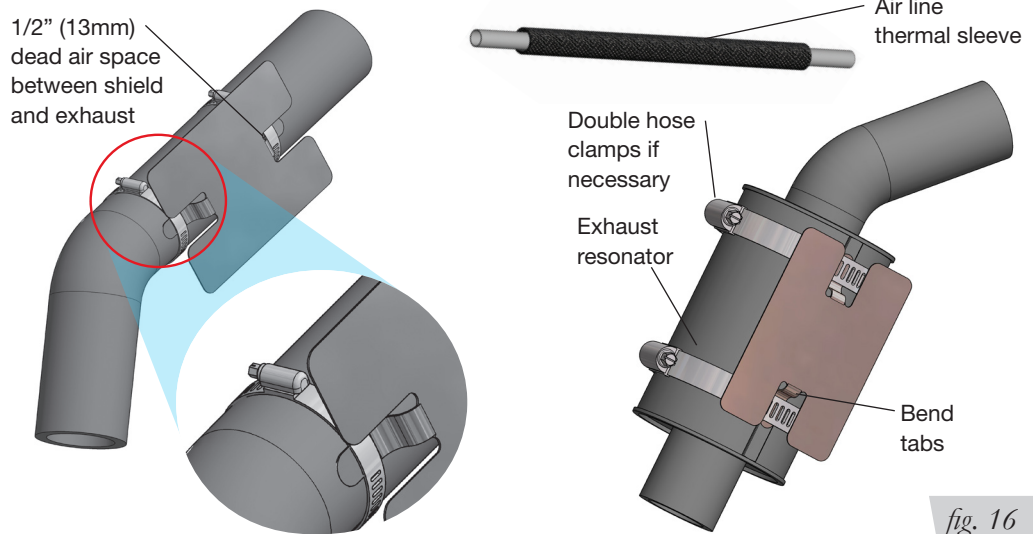

fig. 16
1. Attach the metal heat shield to the exhaust where it is closest to the passenger's (right) side air spring. Slide the air line thermal sleeve over the air line and position it where the air line is closest to the exhaust. (Fig. 16).